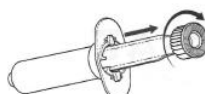

Figure 1
3. Pour activer l'aspiration (Figure 1):
- To activate vacuum pressure (Figure 1):